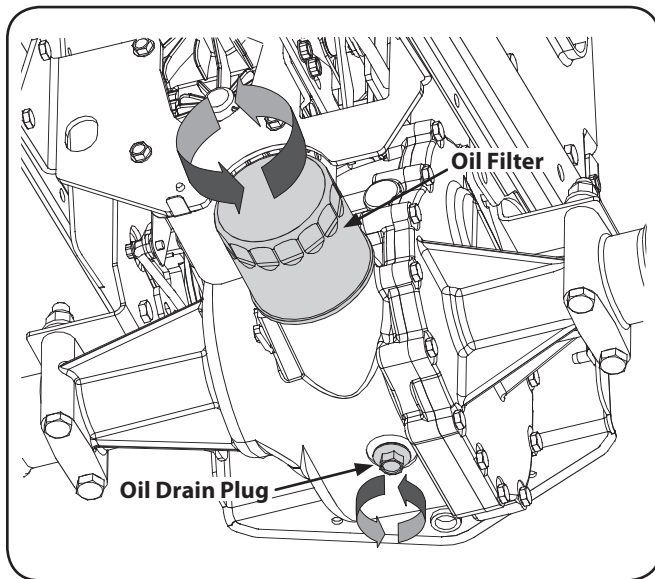

Figure 6-3
- Remove the drain plug and allow the transmission oil to drain into a clean container having a capacity of more than six quarts. Reinstall the drain plug. See Figure 6-3.
- Clean around the base of the transmission oil filter and remove the filter by turning it counterclockwise. Refer to Figure 6-3.